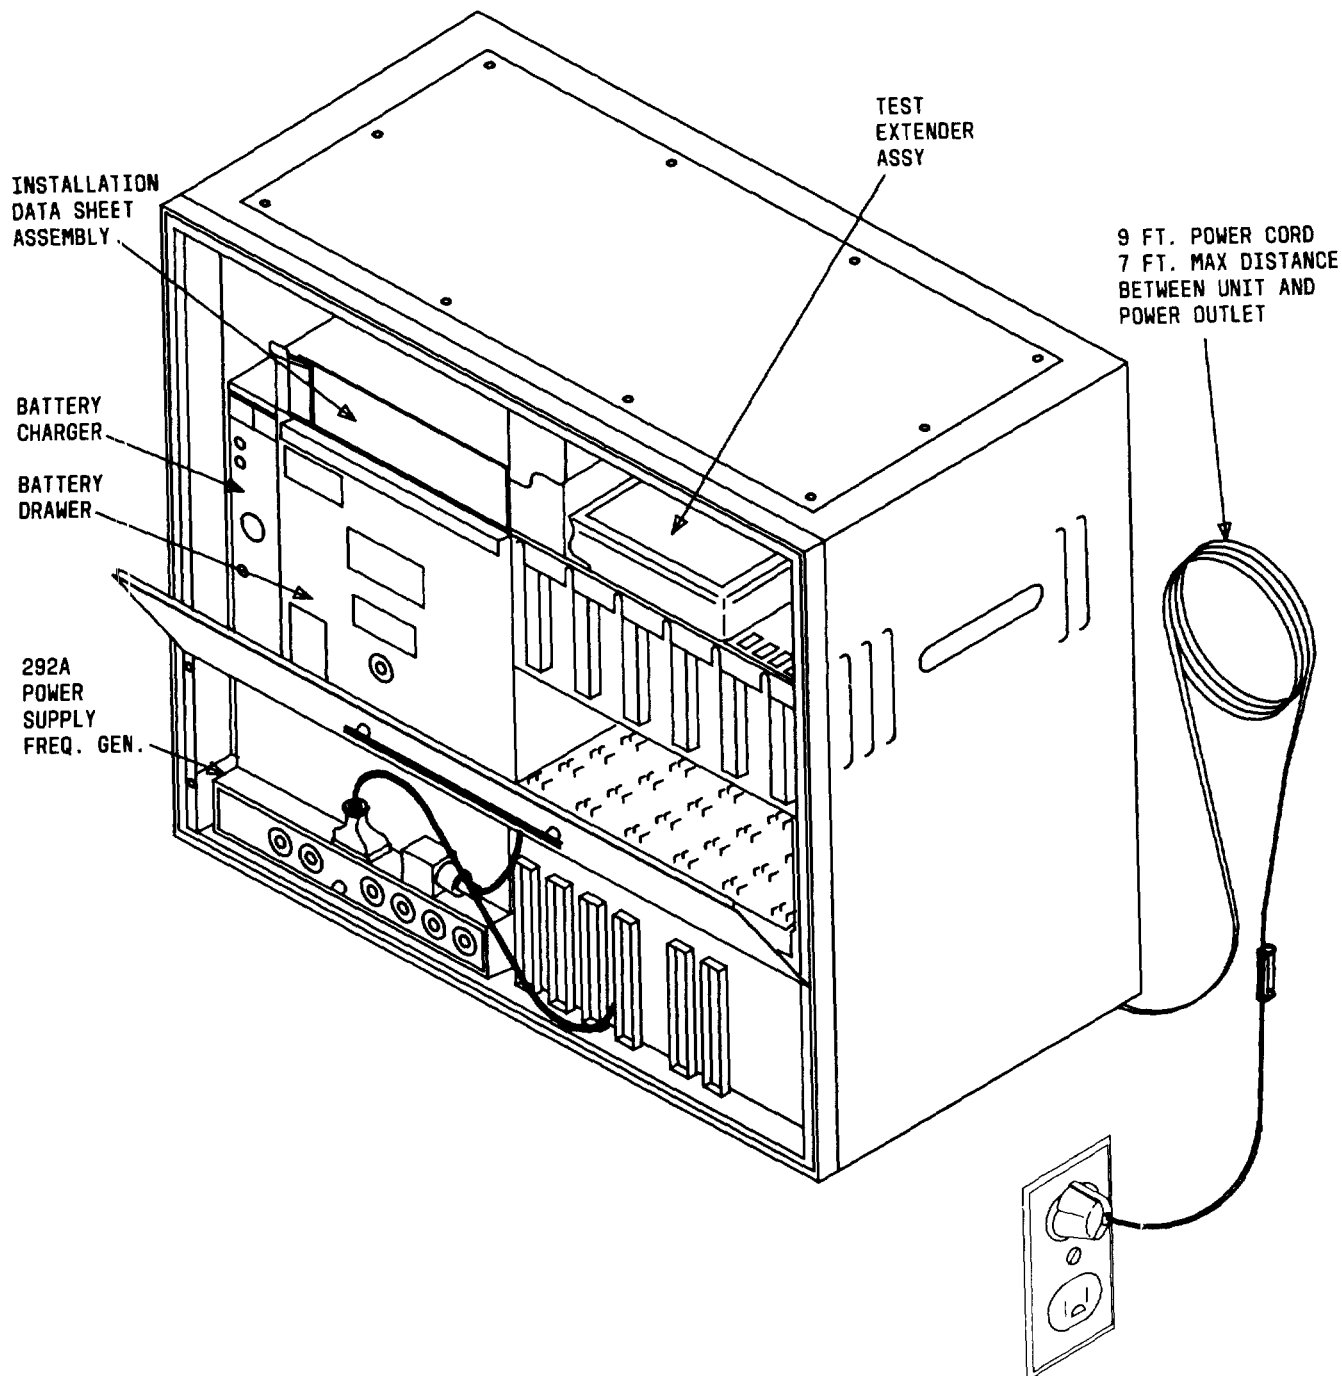

Fig. 1—J99400F Housing Assembly
**2.02** The J99400F assembly shown in Fig. 1 will accommodate up to six MFT circuits in a single module arrangement. The MFT mounting shelf is located behind the hinged smoked-gray plastic door on the top portion of the assembly. Also located behind this door is the J99400AD battery charger and the J99400AE battery drawer. Space is provided above the battery drawer for convenient storage of the installation data sheet assembly, ED-7C223-G5. Space is provided above the MFT shelf for storage of the J99400TA test extender. The plastic door is held in the closed position by magnetic strips located on each side of the door.
**2.06** The 292A power supply/frequency generator will accept 117 Vac commercial power input and supplies four -48 Vdc outputs (-48 A, B, C, and D) and 20-Hz ringing to the MFT mounting shelf. The -48 Vdc outputs provide power to the mounting shelf as shown in Fig. 1. Each of the -48 Vdc outputs has a current capacity of 0.5 amperes for a total power supply current output of 2.0 amperes. Each of the four -48 Vdc outputs is protected by 1.75 ampere circuit breaker. The 20-Hz ringing output is capable of ringing up to nine phones simultaneously and is protected with a 1.0 ampere circuit breaker. The 117 Vac input is protected with a 1.75 ampere circuit breaker. The circuit breakers mentioned, as well as "power on" indicator, are visible with the housing front panel in position. If these circuit breakers should trip, the white center button will extend. The circuit breakers are reset by pushing this center button.
**2.10** The J99400AE battery drawer is intended for use with the J99400F housing assembly. It provides approximately 4 hours of battery reserve power. The battery drawer is located in the MFT shelf to the left of the MFT plug-in slots as shown in Fig. 1.
**2.12** This assembly contains installation instructions for the J99400F housing assembly. The data sheets are packaged on an MFT circuit pack frame and may be stored above the mounting shelf as shown in Fig. 1 or in an empty plug-in slot. This assembly consists of an MFT card holder frame and shield with an attached 2-ring, loose-leaf binder. More detailed installation information can be found in Section 332-610-205.